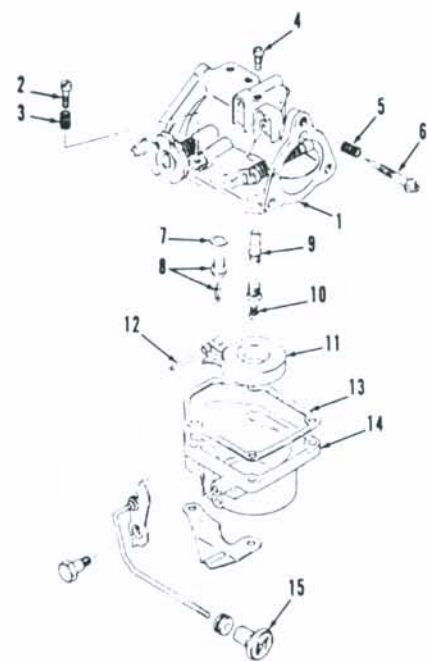

Fig. SZ11-1—Exploded view of Mikuni B32-28 carburetor.
**CARBURETOR.** A Mikuni B32-28 carburetor is used. Refer to Fig. SZ11-1 for exploded view. Initial setting of pilot air screw (6) from a lightly seated position should be  $1\frac{1}{4}$  to  $1\frac{3}{4}$  turns open on models prior to 1987 and  $1\frac{1}{2}$  to 2 turns open on models after 1986. Final carburetor adjustment should be made with engine at normal operating temperature and running in forward gear. Adjust idle speed screw (2) so engine idles at approximately 650-700 rpm. Adjust pilot air screw so engine idles smoothly and will accelerate cleanly without hesitation. If necessary, readjust idle speed screw to obtain 650-700 rpm idle speed.